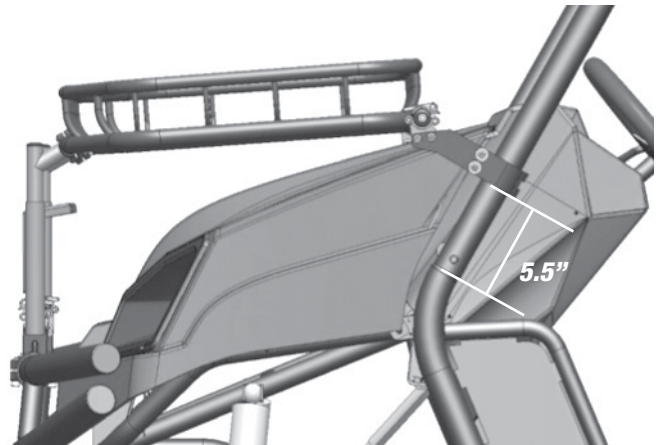

fig. 6
- 5** Place the 2 ROPS clamps (E) 5.5 inches up from the ROPS tube joint as shown in the figure 6.